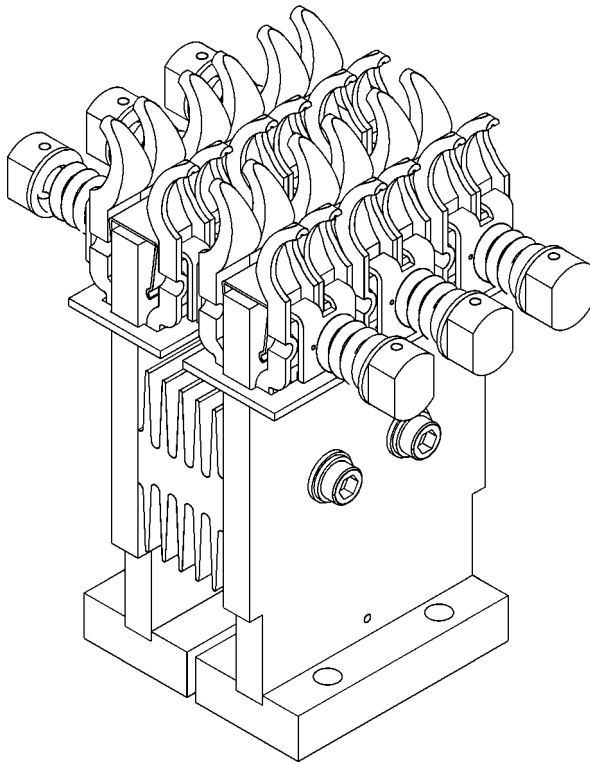

Figure 8. Connector assembly for the upper primary disconnect.
Primary Disconnect assemblies are available in two configurations for the upper and lower disconnects, as illustrated in Figures 8 and 9. Each pole on the lower disconnect requires two assemblies. Each pole on the upper disconnect requires two assemblies and one inner heat sink, with two additional outer heat sinks on the center (B) pole. The catalog numbers are listed in Table 5.